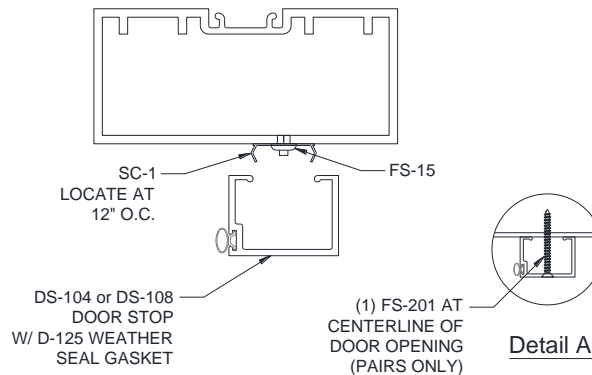

Figure 19: Inserting Rotating-Snap Door Stop
- 7.2.4 Secure Door Stop with **FS-201** Fastener, as shown in *Figure 19, Detail A*.